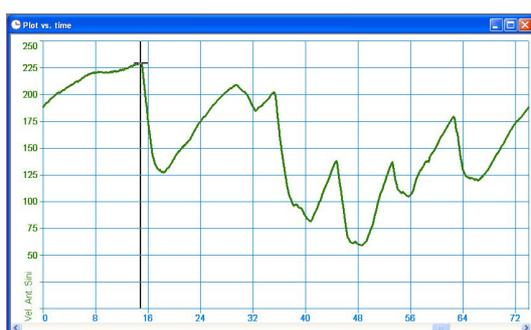
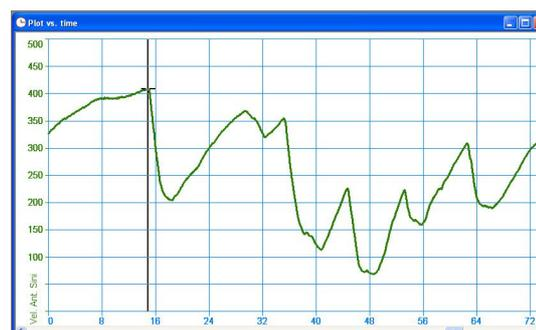

Fig. 4.9– Speed channel: no modify
Fig. 4.10– Shifted and amplified graph
In the following Figures 4.9 and 4.10 it is reported an example of a shifted and amplified graph.
- Figure 4.9 shows a “no modified” Formula Renault 2000 speed channel. The vertical cursor is placed in the maximum speed track position: the maximum speed is 230 km/h (about 145 MPH).
- Figure 4.10 shows the same channel which has been amplified by 2 (i.e. A = 2) and shifted down by 50 (i.e. B = -50); the graph scale has also been modified, as described in chapter 4.6.1, in order to show the complete graph. The vertical cursor is placed, as in Figure 4.9, in the maximum speed position: this time the speed reported on the graph is 410 km/h. If you try to calculate the maximum speed using the “Value = (Value\*A)+B” formula, you get the following result:  $(230*2)-50 = 410$  km/h.